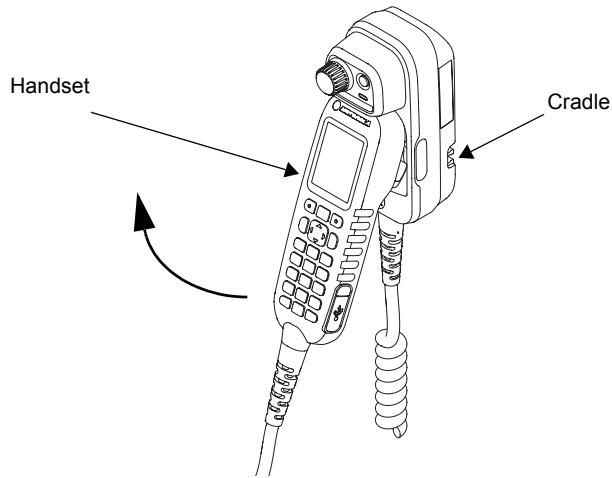

Figure 6-23 Handset Removal
1. Unlatch the Handset from the Cradle as shown in Figure 6-23.